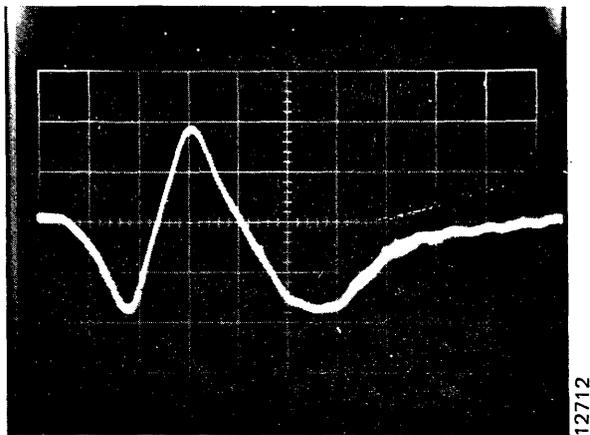

Figure 3-9. Balance Adjust Waveform
6. Turn on the exerciser CONT switch. The disk drive should begin three-cylinder, alternate-seek operation; and a scope display similar to Figure 3-9 should be observed. Readjust the exerciser POSITION RATE control to slow down the drive seek rate to a point where display jitter is emphasized but not so slow that the flicker rate is objectionable.
7. Ground the scope Channel 1 input, zero the dc level, and switch back to DC. Notice that the plateau just preceding the swings in the trace may be slightly above or below the 0 volt level. Adjust balance potentiometer R80 on the edge of the Servo Control card to bring this plateau to 0 volt. See Figure 3-9.